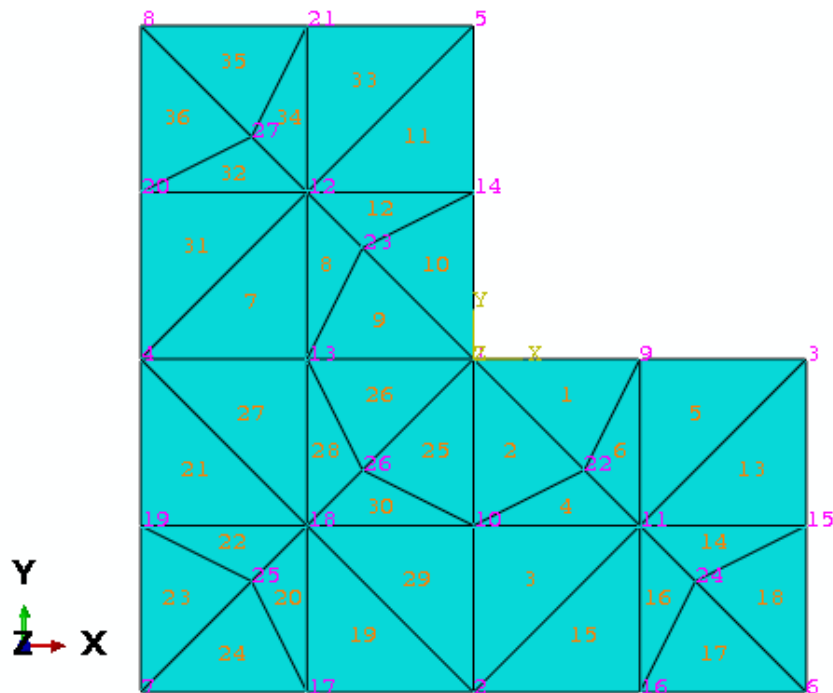

Figure 3: Node and element order for mesh size = 0.5 m
3. Create a mesh in part according to problem statement. In this case, it is static FEA analysis and plane stress problem (fig. 3 and 4)
From fig 3 and 4, we can conclude that answer which we derived from the coding is way far from the real answer. So, as we increase mesh size from 0.5 m to 0.25 m. Our error will get increased for majority of case. Where error is defined as,  $| ((\text{deformation from Abaqus} - \text{deformation from code}) / \text{deformation from code}) | * 100 \%$ .